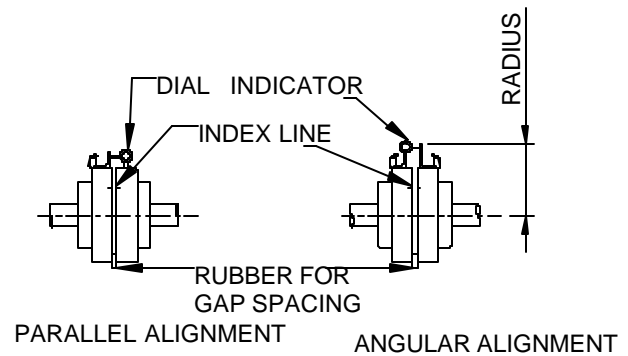

FIGURE 15
11. For more accurate alignment, use a dial indicator clamped on one hub, with the dial indicator button resting on the other hub. Rotate the hub on which the indicator is clamped, and observe the indicator reading. Take readings at four locations, 90° apart. With correct alignment, the faces of the couplings should be parallel within .001 per inch of shaft diameter, in both parallel and angular planes. (See Figure 15.)